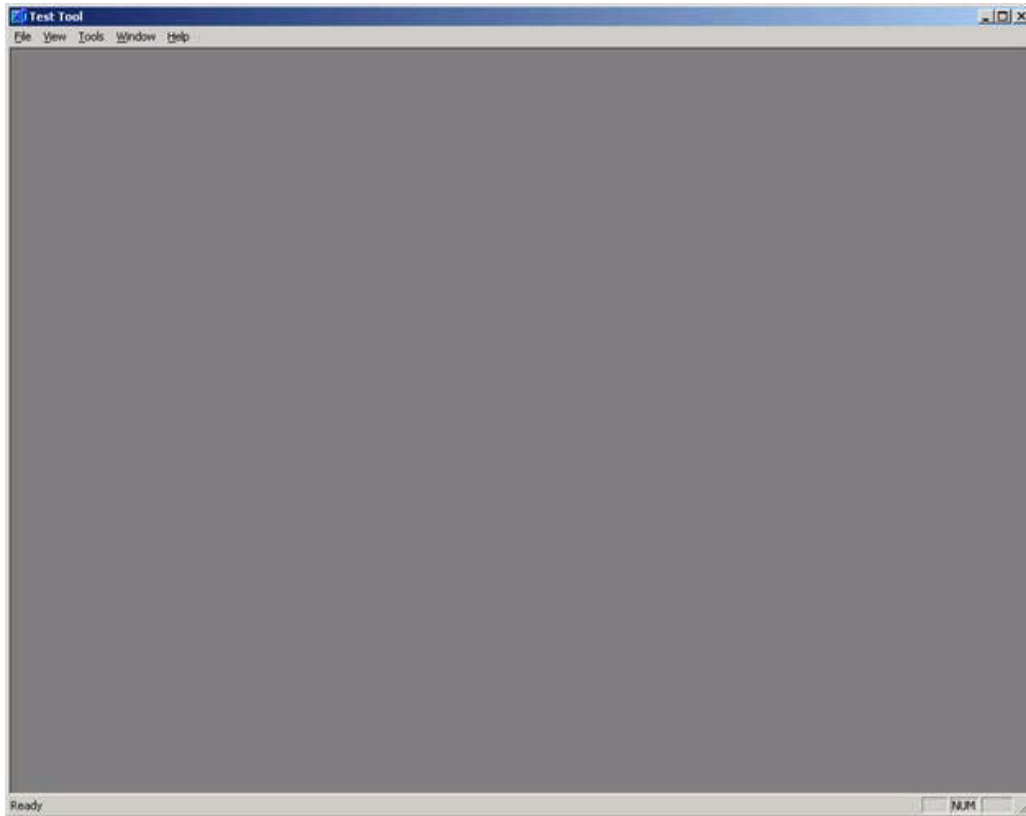
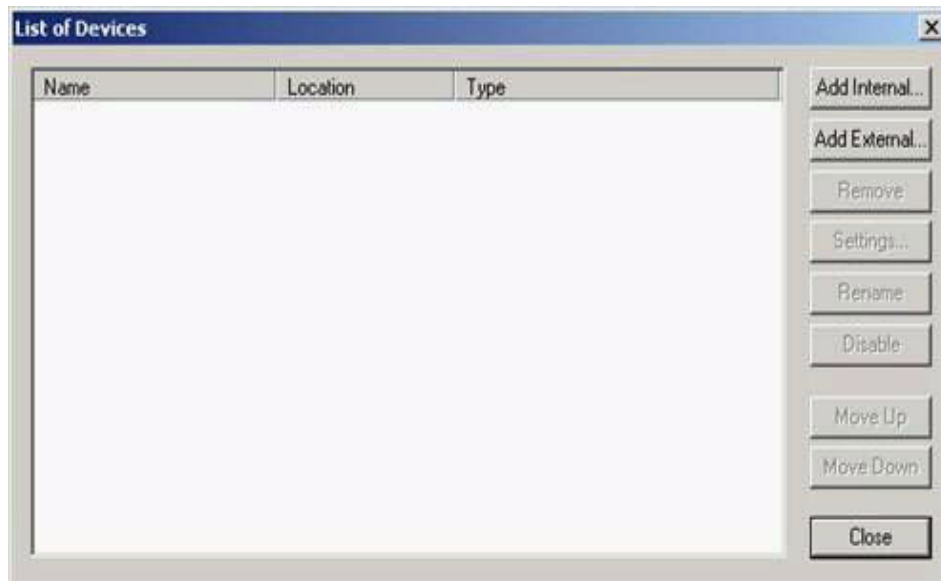

Figure 3. Test Tool Window
Figure 4. List of Devices Window
2. Launch the Freescale Test Tool. The Test Tool window appears as shown in Figure 3.
3. The devices must be added manually. From the Tools menu as shown in Figure 3, select Communication Settings. The List of Devices window appears as shown in Figure 4.